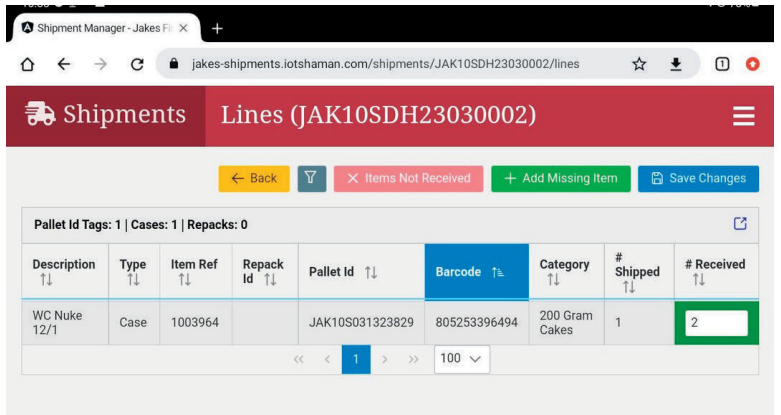

Figure 10
- g. Change # Received as needed. Once the # Received for the item is changed, you can save the change by either clicking on Save Changes once the change is saved the # Received field will now be highlighted in GREEN (Figure 10)